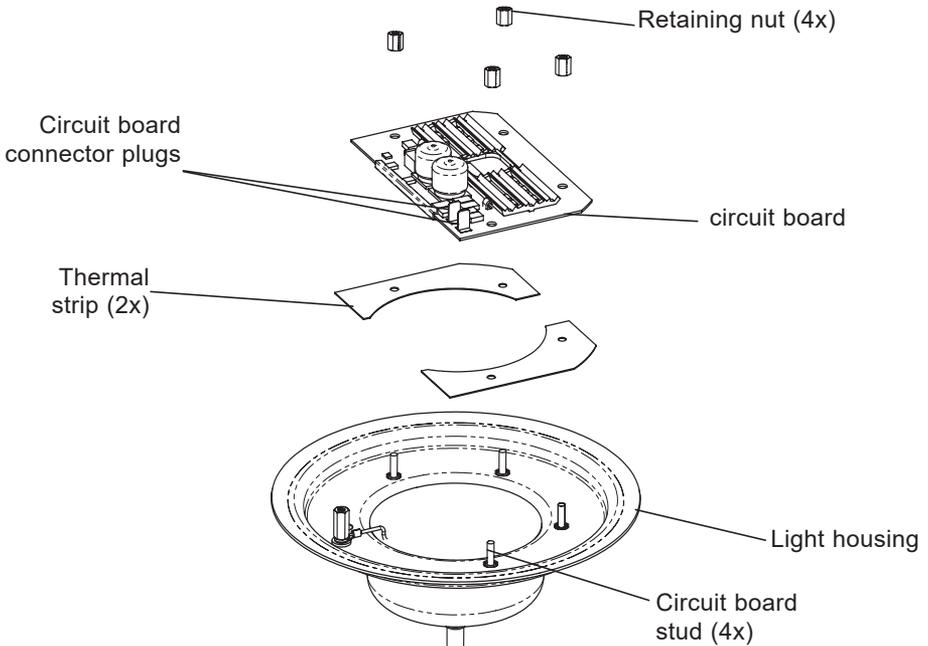

Figure 8.
6. Using a $\frac{1}{4}$ " nut driver, carefully remove the four retaining nuts from the light assembly. See Figure 8. Place the nuts aside for reinstallation. See Figure 8.
Installing the SlimLite Light Circuit Board (See Figure 8)